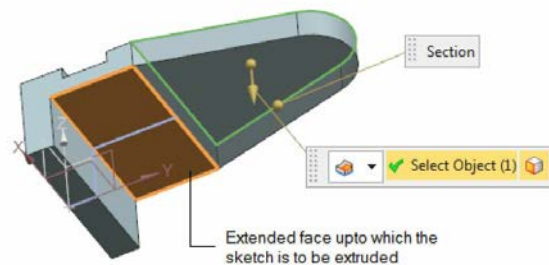

Figure 5-64 Face to be selected to terminate the second feature
5. Select the **Until Extended** option from the **End** drop-down list in the **Limits** rollout of the dialog box. Hold the middle mouse button and then rotate the view of the model such that its lower faces are visible. Next, select the bottom horizontal face shown in Figure 5-64 to define the termination of the second feature.